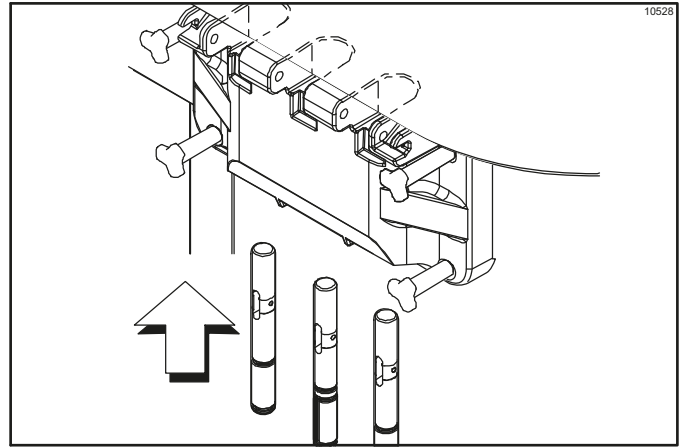

Figure 6-14
21. Insert the draw valves from the bottom until the slot in each draw valve comes into view. (See Figure 6-14.)